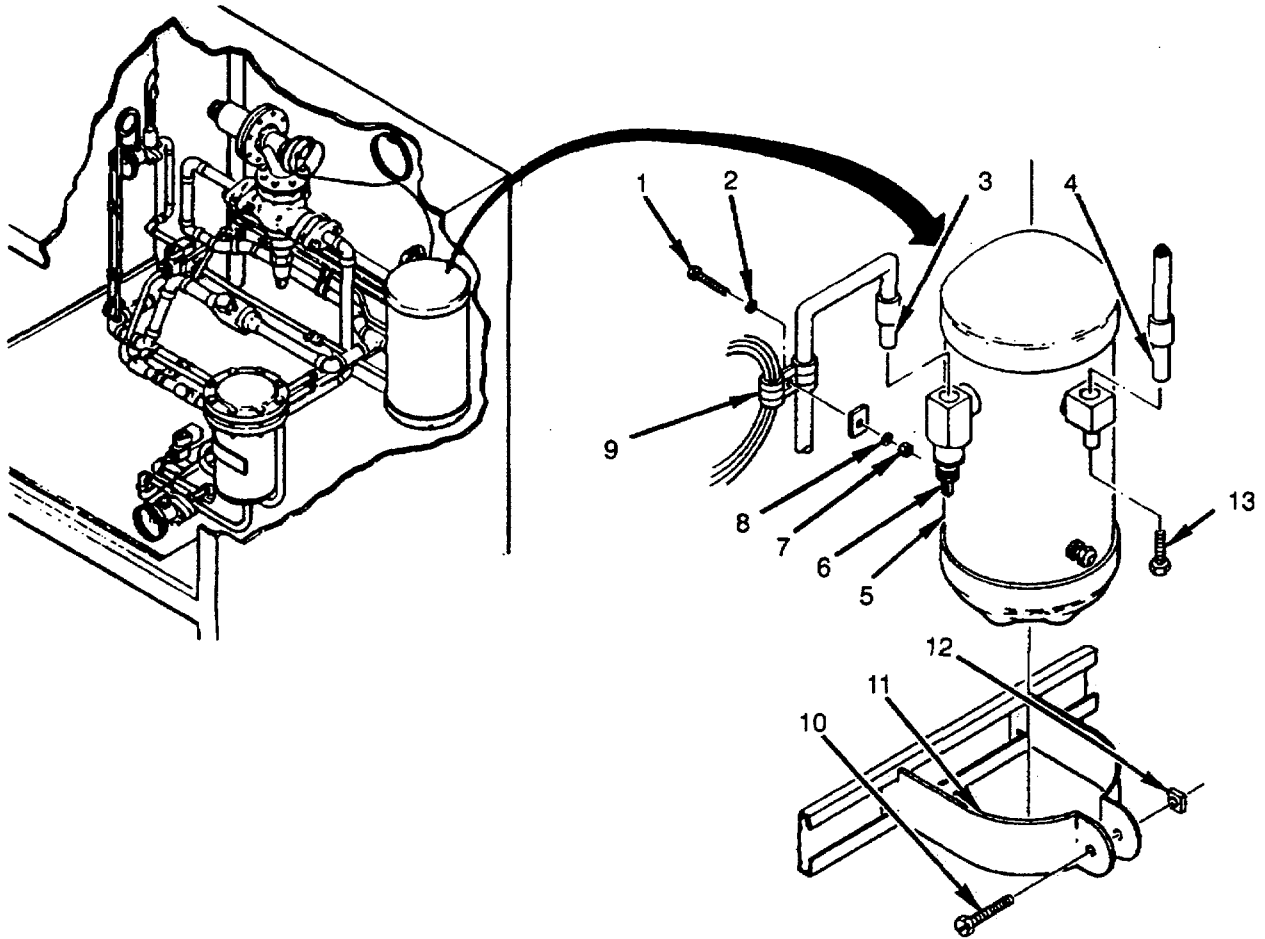

Figure 5-31. Receiver
1. Inspect for evidence of leaks, damaged lines, and loose or missing mounting hardware (see Figure 5-31).
3. Inspect fusible plug (13) for evidence of leaks or damage. Replace fusible plug if defective.